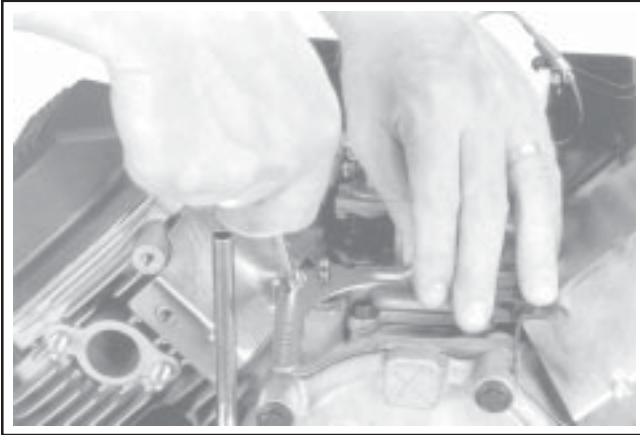

Figure 11-81. Adjusting Governor Lever.
3. Move the governor lever **toward** the carburetor as far as it will go (wide-open throttle) and hold in position. See Figure 11-81.